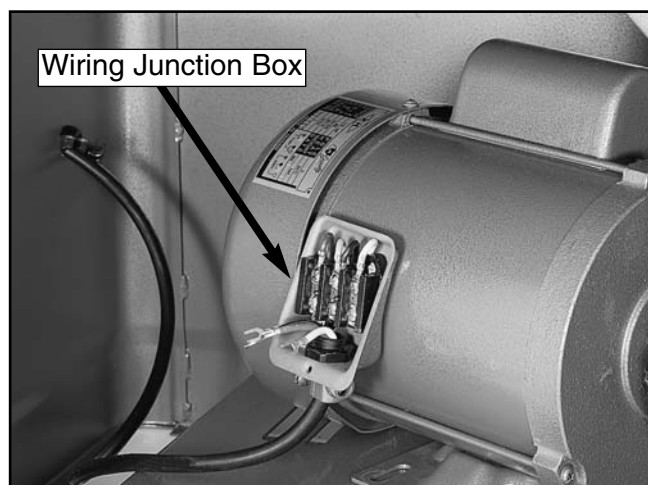

Figure 13. Motor positioned for easy access.
1. Remove three of the four motor mounting bolts and swing the motor toward the rear stand opening, as shown in **Figure 13**.